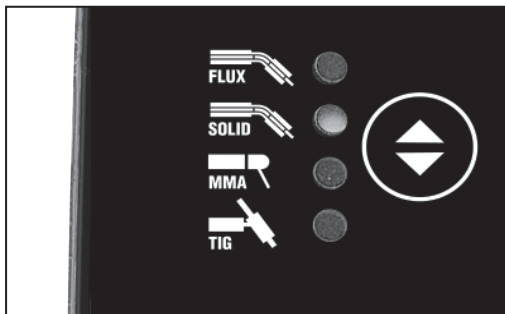

FIG. 7
8.1 WELDING TYPE SELECTION - SWITCH – FIG.7